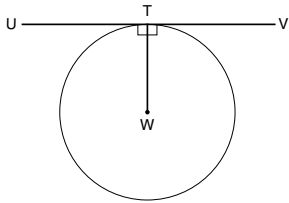

Figure 3-15. Line TW, developed from the tangency point to the circle's center, is perpendicular to tangent Line UV.
- **A line taken from a point of tangency to the center of a circle is perpendicular to the tangent.** Thus, in **Figure 3-15**, Line TW is perpendicular to Line UV.